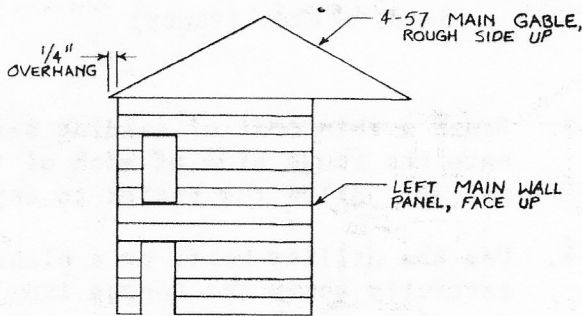

FIG. 2
8. Lay the main gables (part no. 4-57) in position as shown in figure 2, rough side facing up. The gable must extend $\frac{1}{2}$ inch beyond the rear edge of the wall panel. Allow the glue to set before proceeding with step 10.